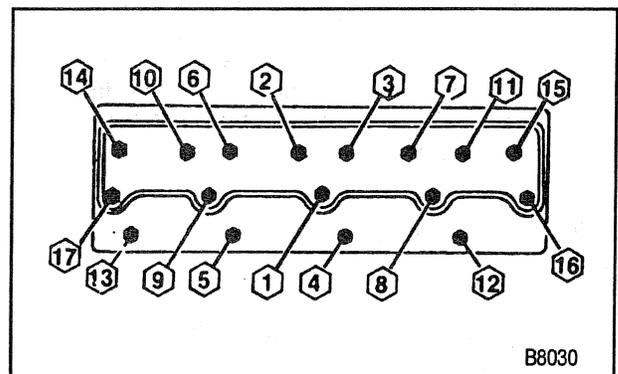

Figure 18—Head Bolt Tightening Sequence
↔ Install or Connect (Figure 18)
- A. Using the sequence shown in figure 18, tighten all bolts to 25 N.m (20 lbs. ft.).